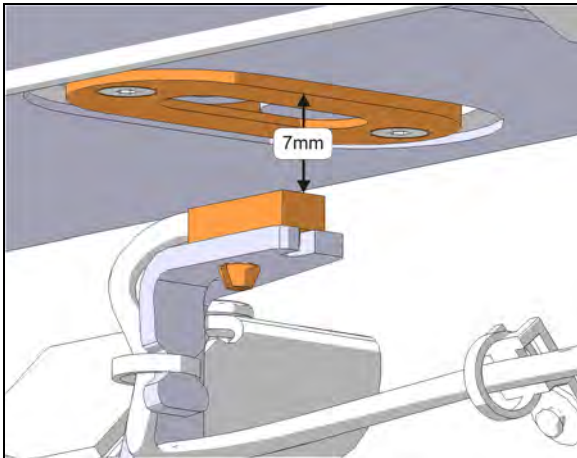

FIGURE 53: SENSOR VERTICAL ADJUSTMENT
3. Bring slowly the sensor toward the outside of the vehicle until the LED turns on. When it does, move it 0.079" (2mm) further in the same direction. Adjust vertically to 7mm from magnet support face (Figure 53). Tighten the mounting bracket screws.